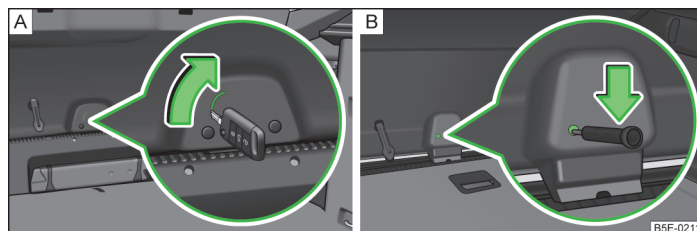

Fig. 203 Emergency unlocking: Octavia/Octavia Estate
- Insert the vehicle key into the slot in the trim panel as far as the stop » Fig. 203 - [A].
- Insert a screwdriver or similar tool into the opening of the trim as far as it goes » Fig. 203 - [B].